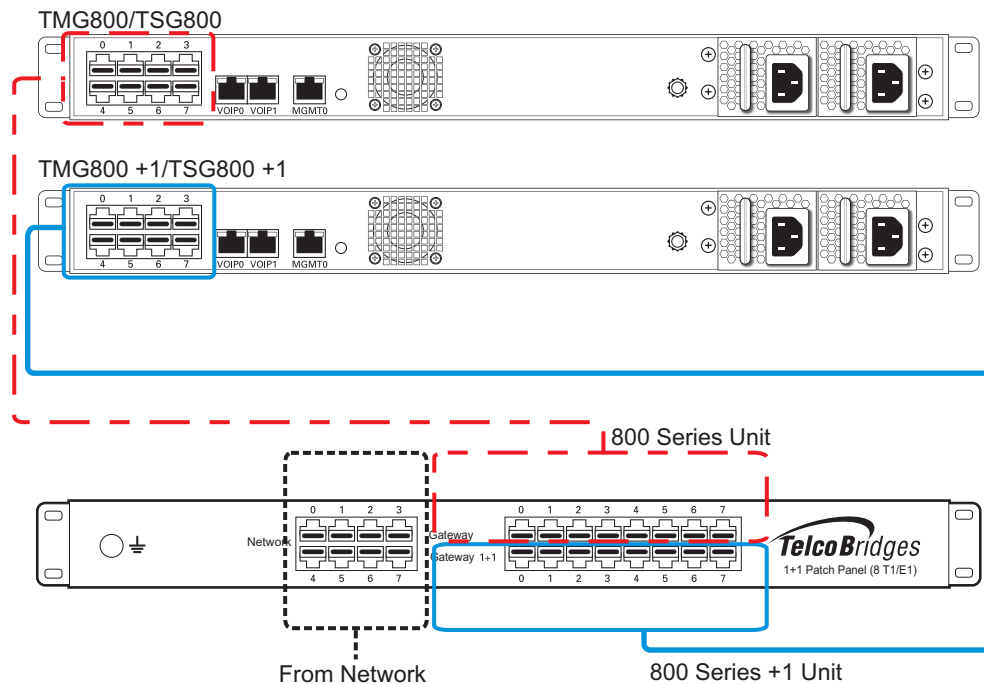

Figure 2.10 TMG800/TSG800 and TMG800 +1/ TSG800 +1 connecting to the 1+1 patch panel (8 T1/E1)
1. Connect T1/E1 lines 0-7 of the Network section of the patch panel to the remote equipment. See figure 2.10 on page 25.